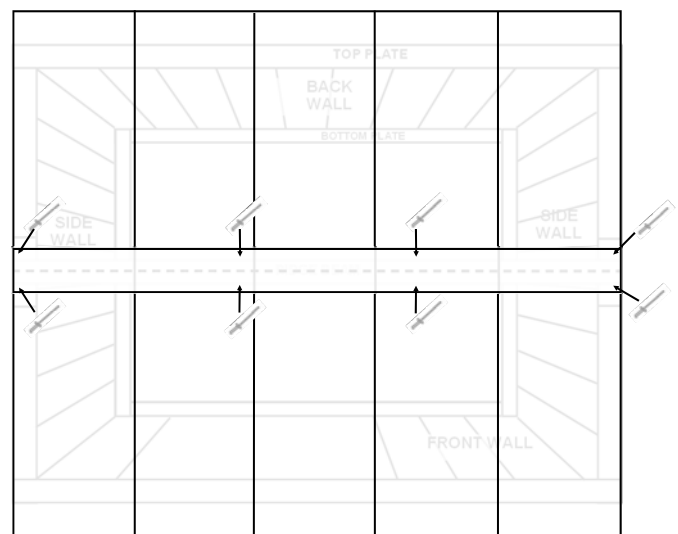

fig.2
- Rivet the 2 ridge flashings together using 4 rivets, so total flashing is 2.550m long. Rivet the Ridge Flashing to the centre of the roof using 8 x rivets as shown (fig.2).